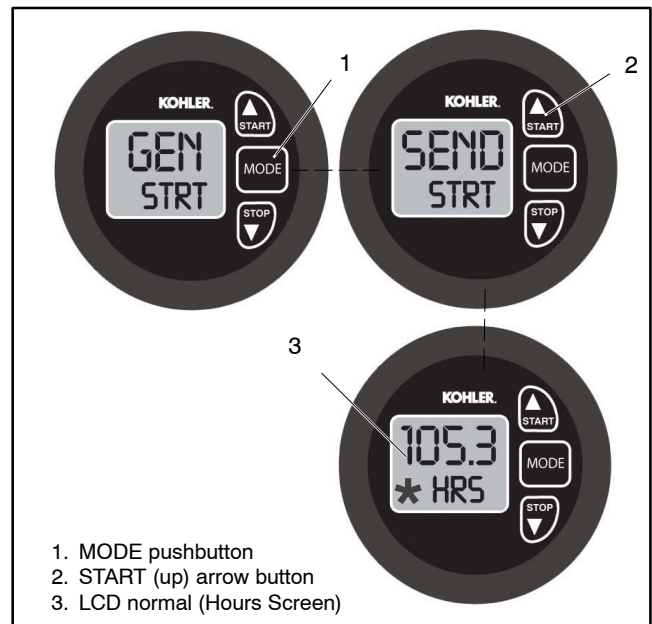

Figure 12 Gen START Gauge Pushbutton Functions
1. Press the **MODE** button until GEN STRT appears on the LCD screen. See Figure 12.
Press the **START** arrow (up) button ▲ to activate the alarm. See Figure 12.